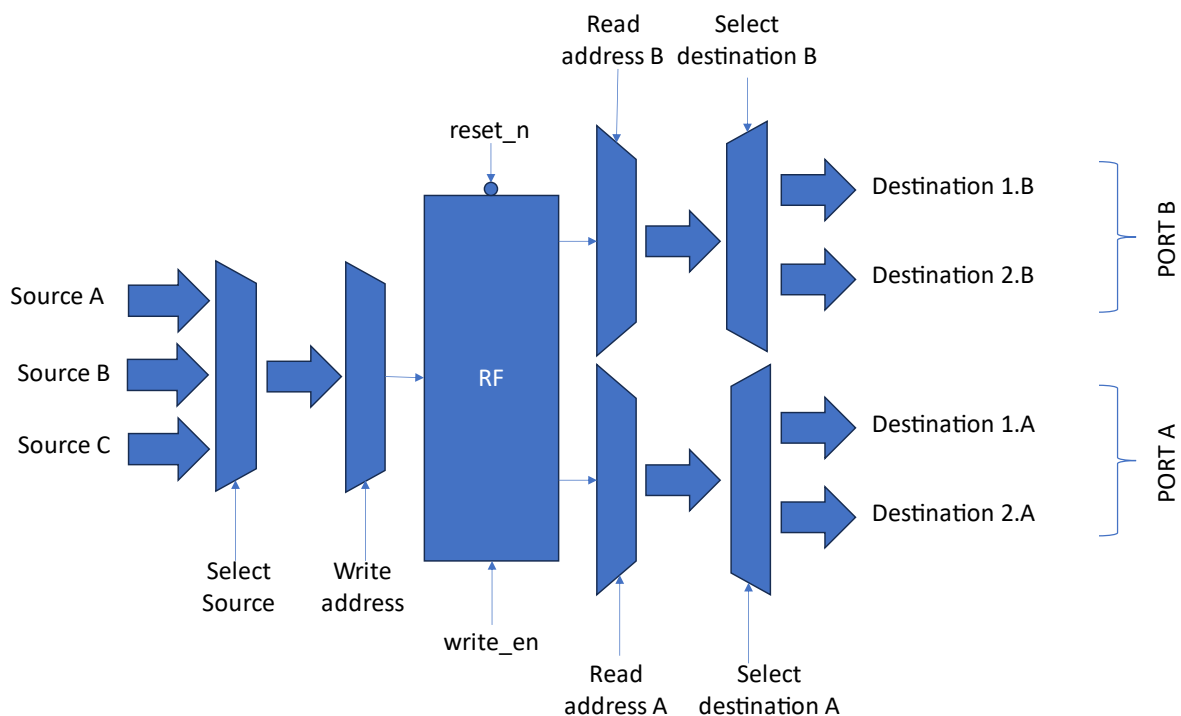

FIGURE 2.1 BLOCK DIAGRAM OF THE REGISTER FILE.
1) Build an RTL model of the Register File (RF). The definition of the module is given in the file `RF.sv` and its block diagram is given in figure 2.1.
- 2) The RF should have 2 read ports and one write port, as seen in figure 2.1.